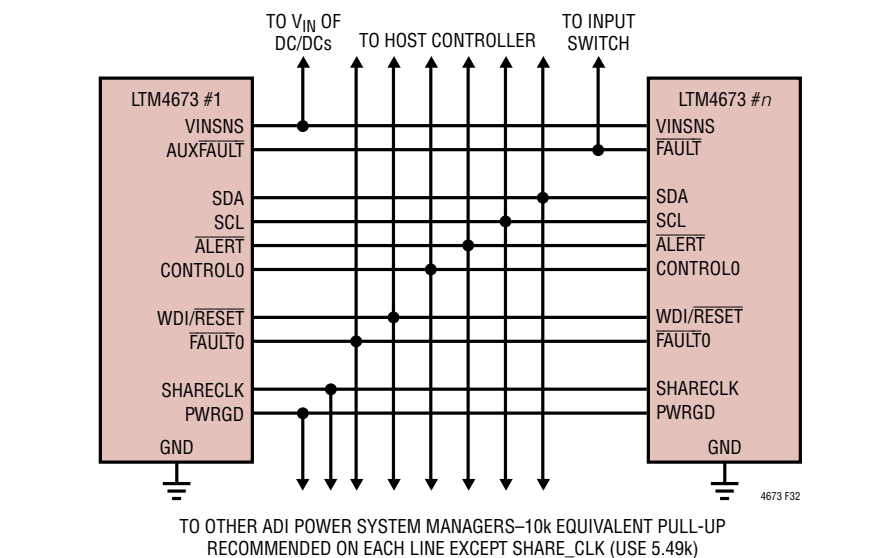
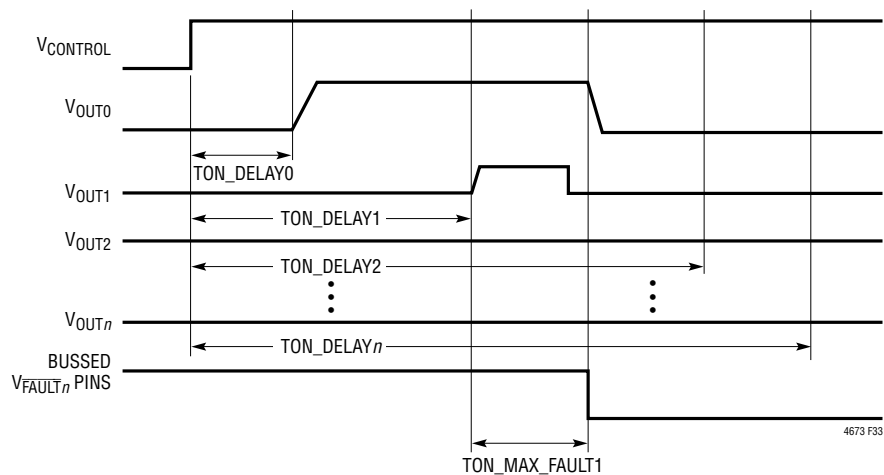

Figure 32. Typical Connections Between Multiple Analog Devices Power System Managers
Figure 33. Aborted On-Sequence Due to Channel 1 Short
Figure 32 shows how to interconnect the pins in a typical multi-LTM4673 array.
- The $\overline{\text{FAULT}}$ lines can be connected together to create fault dependencies. Figure 32 shows a configuration where a fault on any $\overline{\text{FAULT}}$ will pull all others low. This is useful for arrays where it is desired to abort a startup sequence in the event any channel does not come up (see Figure 33).
- PWRGD reflects the status of the outputs that are mapped to it by the MFR_PWRGD_EN command. Figure 32 shows all the PWRGD pins connected together, but any combination may be used.